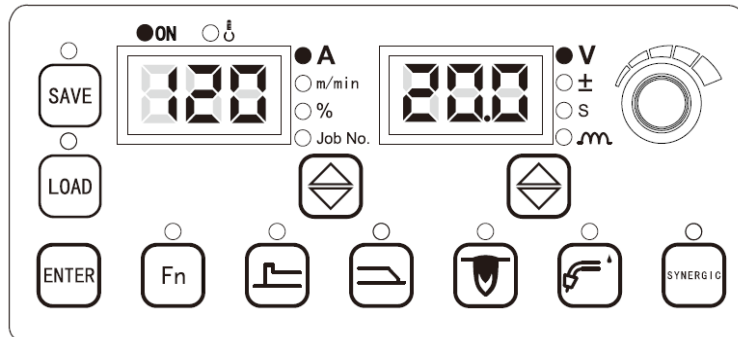

Figure 3-19 Disabling the common lock
2. Press and hold the **ENTER**  button. The **SAVE**  and **LOAD**  indicators turn off, the common lock function is disabled, and the parameters are unlocked. See Figure 3-19.